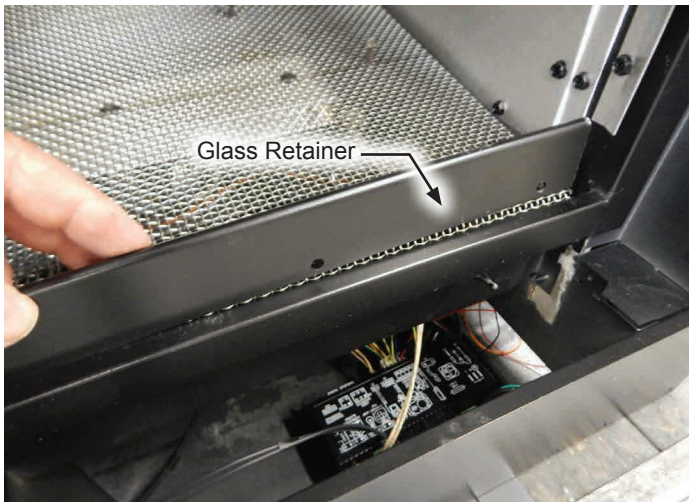

Figure 1
7. Lift the front Glass Retainer bracket to remove. **See Figure 1.**